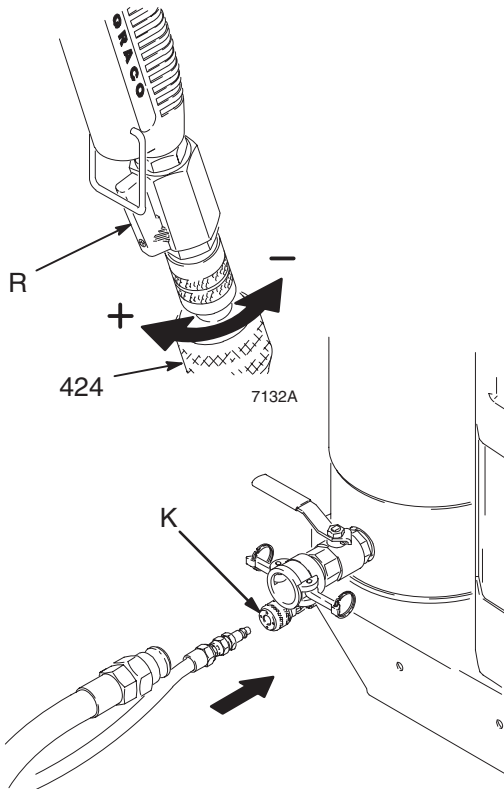

Fig. 2 7123A
1. Connect the air hose to the air outlet (K) and to the gun air inlet. Open gun air valve (R), and turn the air restrictor valve (424) all the way to the + position. See Fig. 2.
3. Open the gun air ball valve (R) (handle parallel with valve body) and air restrictor valve (424) (clockwise). See Fig. 2.